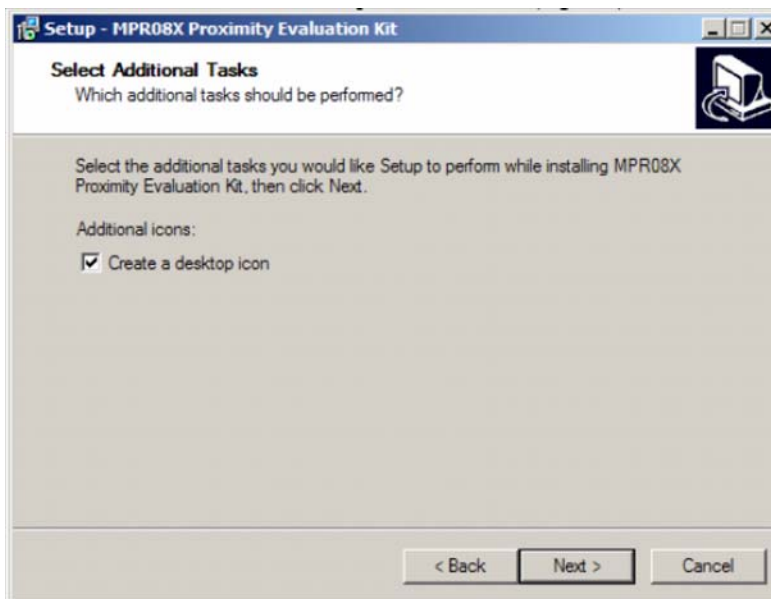

Figure 5. Create a desktop icon
5. The user needs to select whether or not they would like a desktop icon. If the user wishes to have a desktop icon, the user should select the check box for the "Create a desktop icon" (Figure 5).